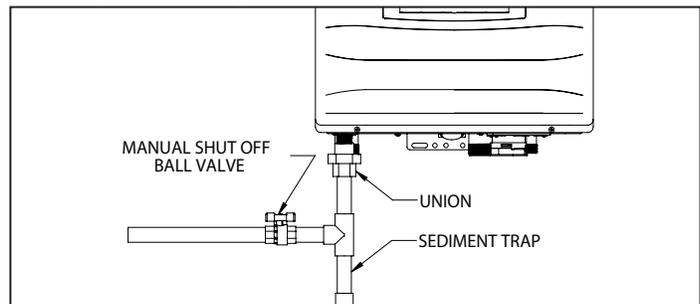

Figure 35 - Gas Line with Shut-Off and Sediment Trap Detail
- The National Fuel Gas Code (NFPA 54) requires that a sediment trap (drip leg) be installed in the gas line on appliances not so equipped. The drip leg must be accessible, a minimum of 3" in length, and not subject to freezing conditions. See Figure 35.
- A manual gas shut-off valve should be installed in the gas supply line close to the water heater. See Figure 35 for detail.